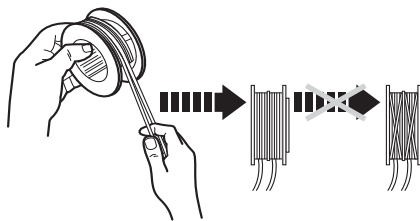

Fig. 26d
10. Wind the two parts of the trimming line in clockwise direction firmly around the spool each part in the guide on the spool. (See Fig. 26d)